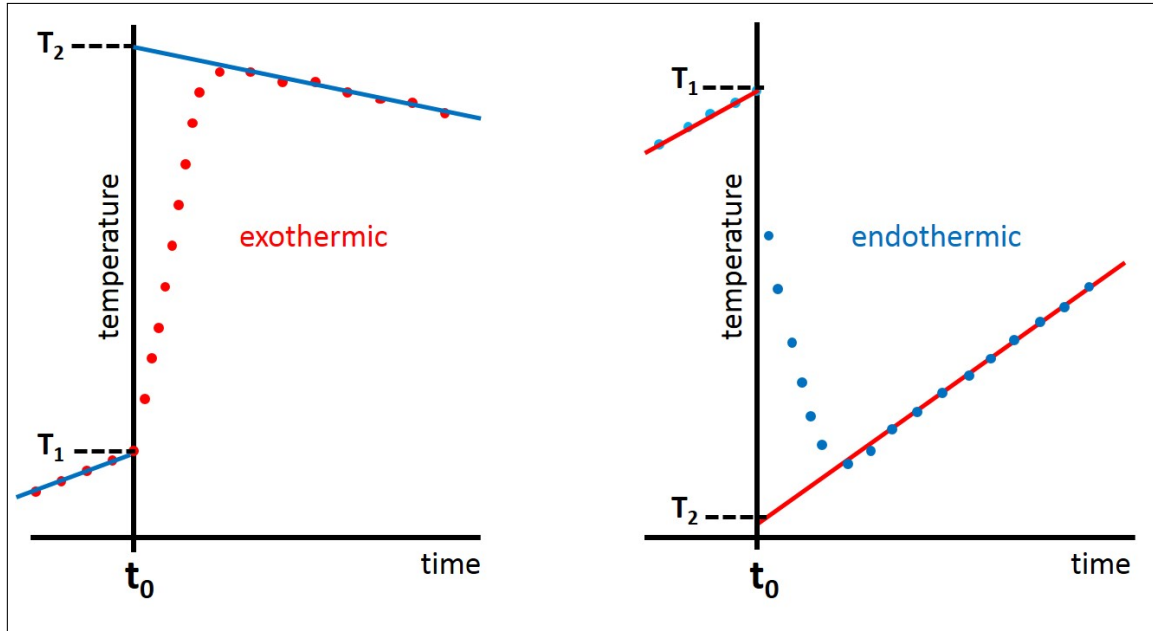

Figure 1: Calorimetric temperature – time curves and their evaluation.
2. The investigated process often does not take place instantaneously, which allows heat to be exchanged with the surrounding (environment), i.e., some of the heat to be determined disappears. This can be avoided either by using – usually expensive – thermal insulation materials and complex technical solutions, or by examining the pre- and post-life of the process. The latter method is illustrated in Fig. 1, where the curve on the left illustrates the measured temperature change of a process involving heat release and the curve on the right illustrates the temperature change of a process involving heat absorption. The process to be tested starts at time t_0 , but the system temperature is recorded long before it. The time between the start of temperature recording and the start of the process is called the pre-period. The start of the main period is t_0 and the main period includes the duration of the complete process studied. During the main period, the temperature change is determined by the heat of the process, but the heat exchange with the environment also begins. In the following post-period, the process, studied, has already taken place, here only the heat exchange with the surrounding determines the change in temperature. While a very sharp boundary can be drawn between the pre- and main periods at t_0 , the transition between the main and post-periods is continuous, as shown in Fig. 1. If the temperature change in the pre-period is approximately linear², extrapolating to t_0 , we can get
- Plot all three series of measurements by showing the moment of t_0 in the figure. The axes should be chosen so that the values of T_1 and T_2 (or $T_{2,com}$) could be determined by simple graphical extrapolation (or straight line fitting, if you can use a computer program). Determine the value of these temperatures in all measurements (see Figure 1). It is not necessary to specify the statistical parameters of the fitted lines.
- From the last measurement, calculate the values of C_{cal} using Eq. (3).